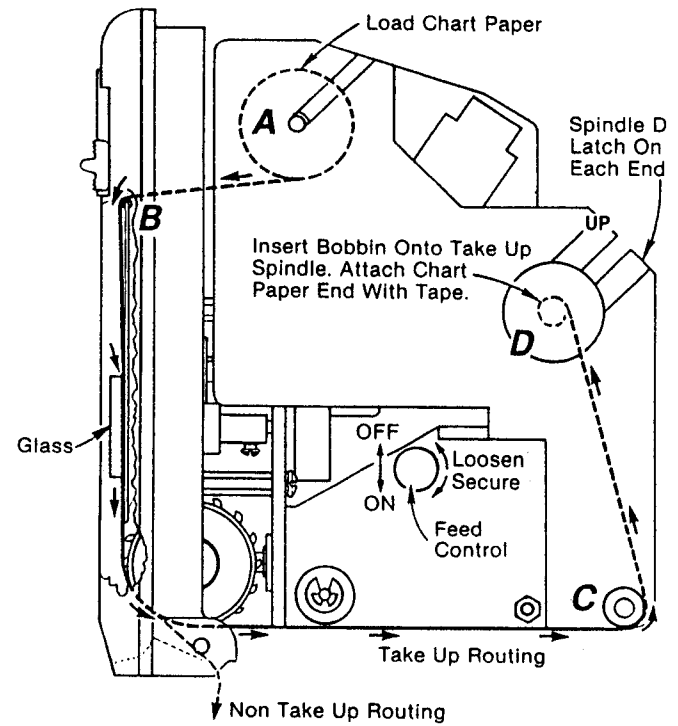

Fig. 7
1. a) To insert chart paper, place recorder in horizontal position and press the release button in the direction shown in fig. 6. Raise the recorder mechanism to a vertical position until it locks. Remove chart spindle (A) (see fig. 7) and place chart roll on spindle. Remove tape on roll and retain tape for securing chart on take-up spindle (D). Unroll about 12" to 15" and route paper over top edge of scale plate (B) underneath glass, over the sprocket wheels, to the rear and over the idle roller (C) up to the cardboard bobbin mounted on take-up spindle (D). Secure edge of chart to bobbin with tape. Make sure the sprocket holes in the paper engage the sprocket wheels. Be sure that feed control is tight and in the right position. The word "on" must be visible. Press in the idle roller extension (C) to allow the recording mechanism to move back down into case and lock into position. Replace cover by positioning the "U" bend onto the projections above the chart well opening. Make sure chart paper is not binding with the cover in place. For "non-take-up" recording, route chart through bottom slot as shown in fig. 7.
- b) To remove chart from take-up spindle (D), move the latches away from the take-up spindle. Turn knurled knob on spindle (D) until the slot in the take-up drive pulley at the opposite end of the spindle is lined up with the slot in the side frame of the recorder. Slide the spindle and chart up and out of the slots in the side frames of the recorder.